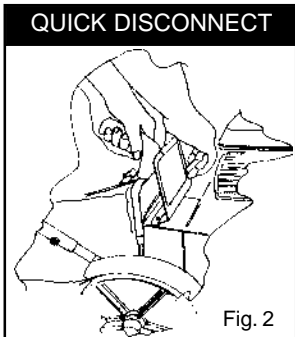

Fig. 2
1. **ASSEMBLE** upper handle securely to lower handle stubs using handle screws (item 8), washers (item 25) and nut lock 5/16-18 (item 26), with screw heads facing inward toward debris bag. Otherwise, premature bag wear could result.
2. **ASSEMBLE** height adjustment rod (item 23), thru eye bolt (item 15), on upper handle and thru upper flange of height adjustment bracket (item 18), thru spring (item 20), and thru lower flange of height adjustment bracket (item 18). Insert pin (item 22), between spring and lower flange of height adjustment bracket (see VIEW A on page 6). Slide grip (item 16), onto upper end of height adjustment rod (item 23).
3. **UNFOLD** the debris bag (item 1) and fasten bag neck to bag quick disconnect (item 12). Attach firmly to housing exhaust (item 52) see fig. 2.
4. **ATTACH** bag hanger straps to loops (item 11), preassembled to upper handle.
5. **ATTACH** throttle assy. (item 2), to handle using cable clamps (item 9).